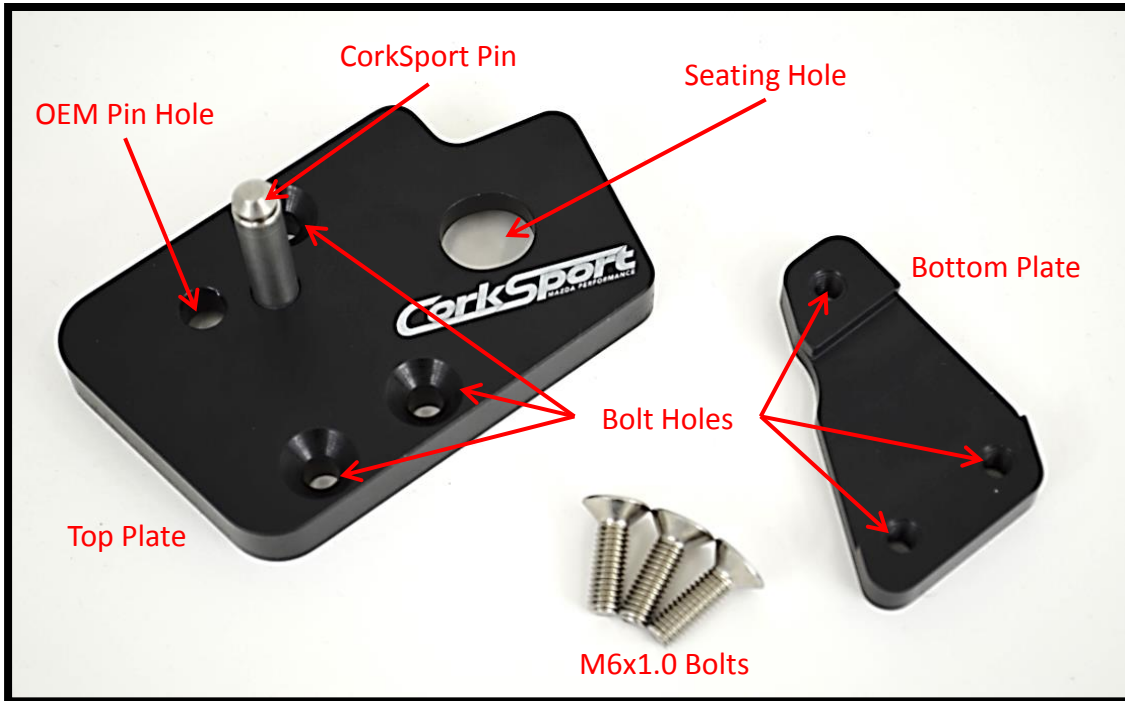

Figure 2c. Kit Breakdown
c) **Place the top plate onto the shifter arm.** Refer to **Figure 2c** for reference and **Figure 2d** for exact orientation and push the plate down firmly to verify it is seated on the lever correctly.